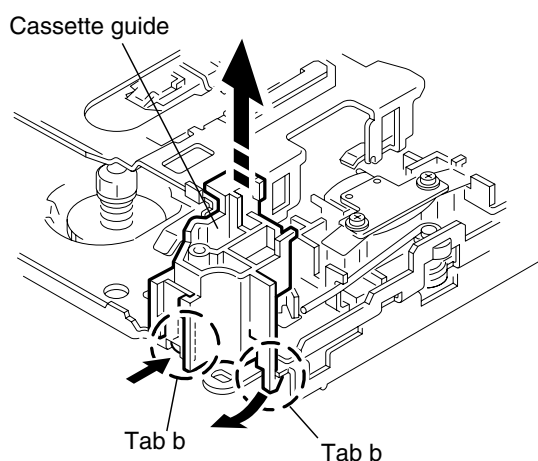

Fig.3
■ Removing the cassette guide (See Fig.3)